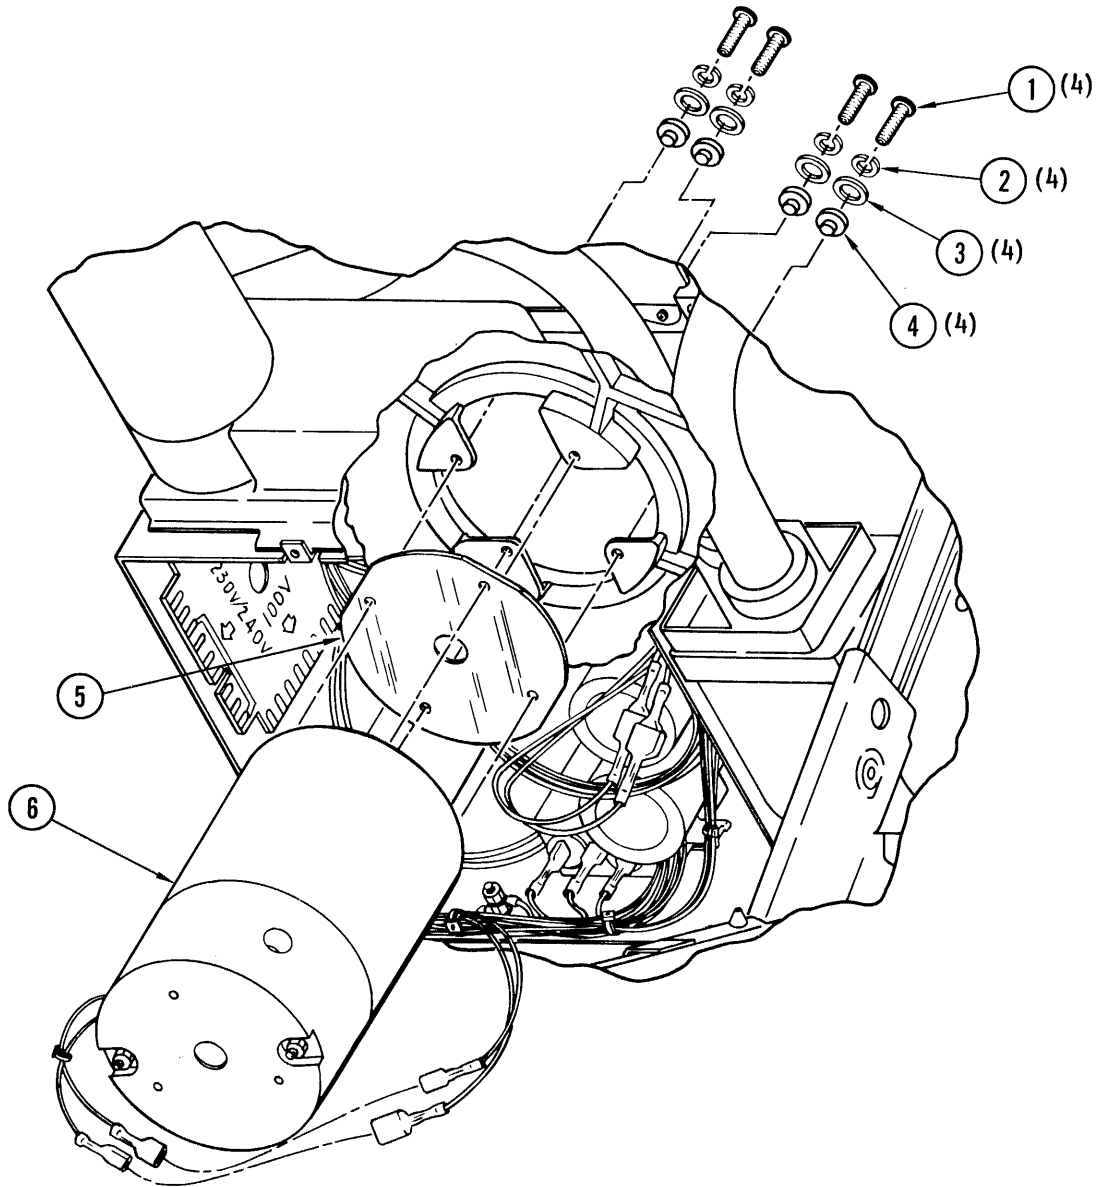

Figure 4-26. Takeup Motor Assembly
4-40. **Removal, Replacement and Adjustment (Figure 4-26).** Place the transport in service access position (paragraph 4-3) and remove and replace the takeup motor assembly in accordance with the following procedure:
- f. Remove four screws (1, Figure 4-26), lockwashers (2), flatwashers (3), shoulder washers (4), and takeup motor (6) out of drive, noting orientation of motor. Save attaching parts, including insulator (5), for use in assembly.